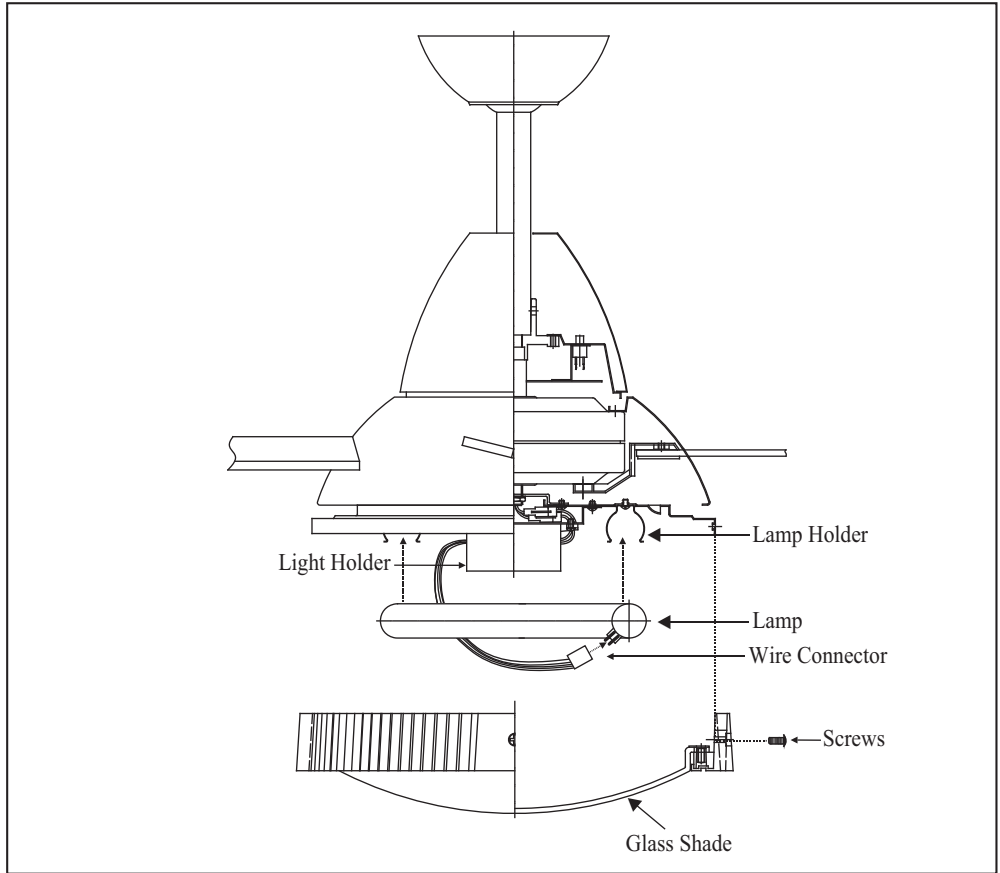

Figure 17
1. Connect the wire connector from the fan to the lamp, then install the lamp (22W) to the light plate using the 3 lamp holders to prop up the lamp. Be sure to pull the lamp holders out a little for installing the lamp easier. (Fig.17)
2. Place the glass shade over the light holder and secure it with the screws provided. (Fig. 17)